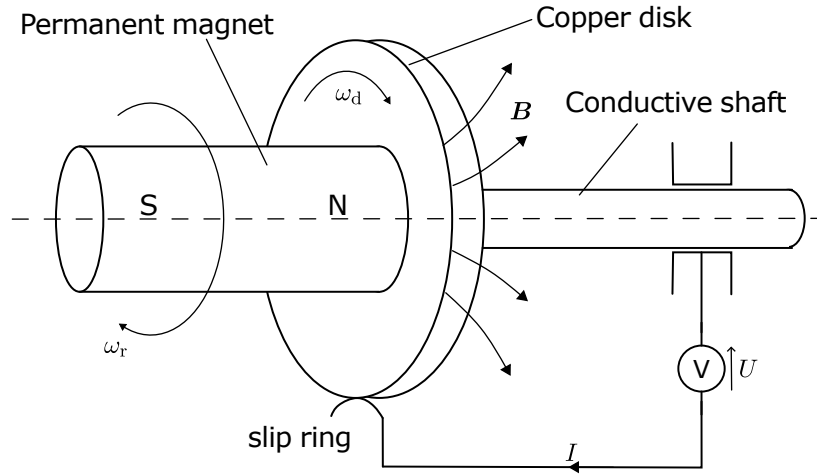

Figure 1: Faraday's disk (rotating copper disk in a homogenous magnetic field)
1.1 The disc from Fig. 1 has a diameter of $d = 60$ cm and is rotating with the circumferential speed $v_d = 100 \frac{\text{m}}{\text{s}}$. What is the rotational speed and angular velocity of the copper disk? [2 Points]